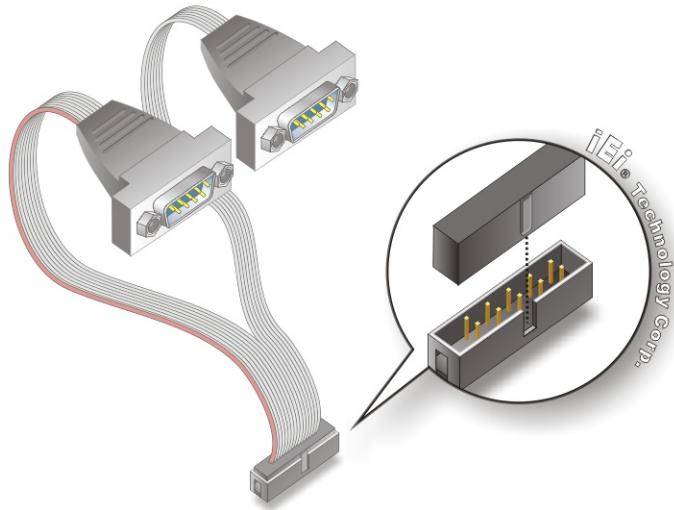

Figure 5-13: Dual RS-232 Cable Installation
Step 2: Insert the cable connectors. Insert one connector into each serial port box headers. See **Figure 5-13**. A key on the front of the cable connectors ensures the connector can only be installed in one direction.